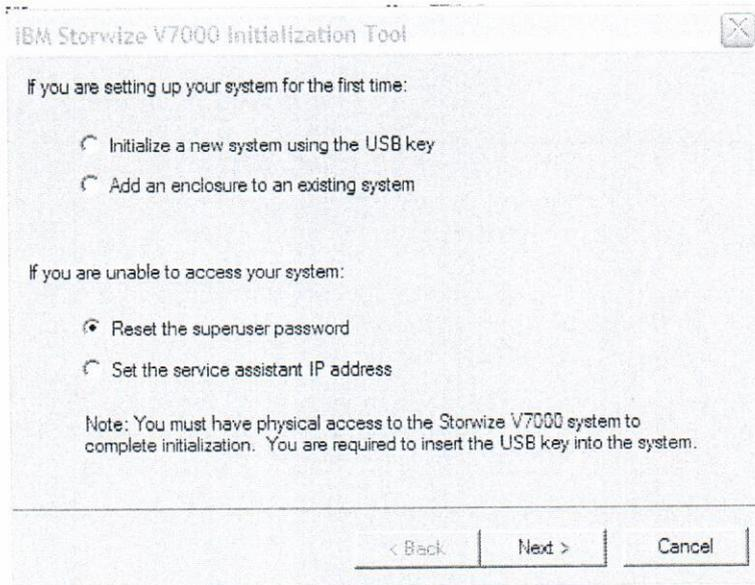

Figure 3 Storwize V7000 initialisation tool window.
4) The Storwize V7000 initialisation tool window will appear (Figure 3)